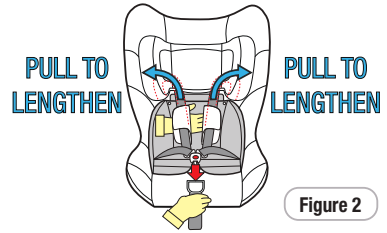

Figure 2
- Step 2:** To lengthen the harness "PRESS" the harness adjuster (refer Figure 2) whilst grasping both shoulder harness straps and pulling. Ensure shoulder straps are pulled equally on each side.